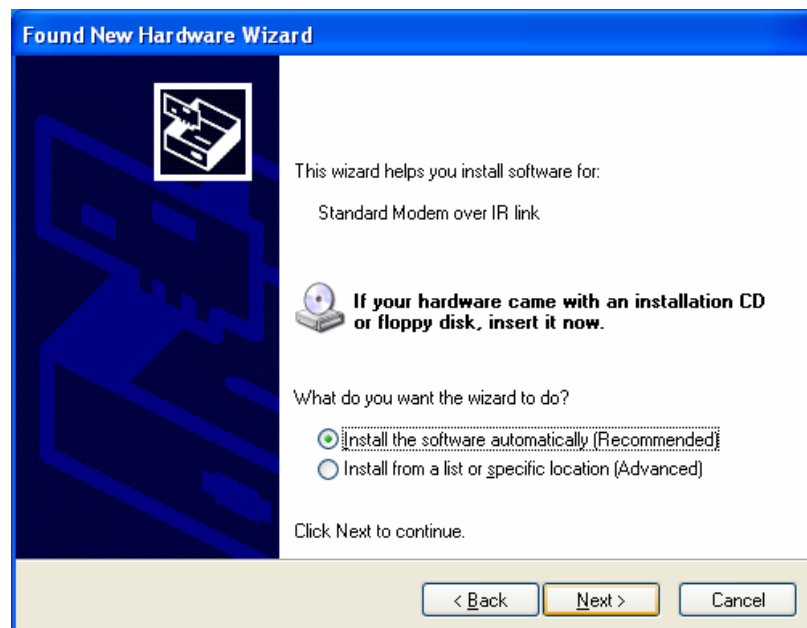

Figure 11 : First screen of 'Found New Hardware Wizard'
5. In the second screen (Figure 11), select '**Install the software automatically (Recommended)**' and click **Next** to continue.